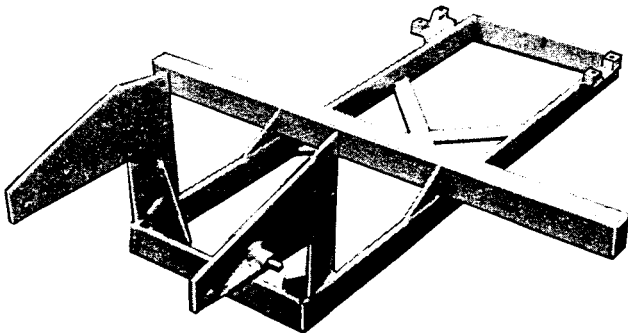

FIG. 6
6. Refer to Fig. 6.
Slide Sub-Frame under tractor with vertical ears toward the front of tractor. (see Fig. 6)